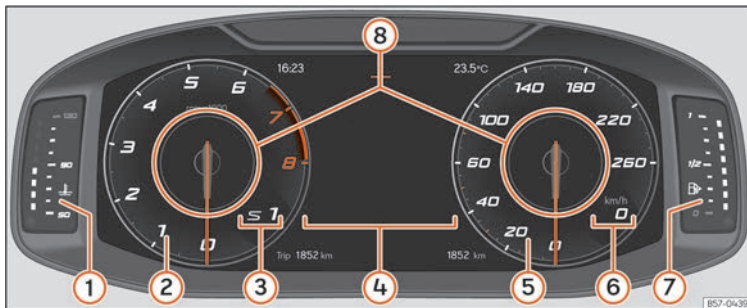

Fig. 61 SEAT Digital Cockpit on the instrument panel (classic view).
»» **Fig. 61** ⑧.
» **Fig. 61.**